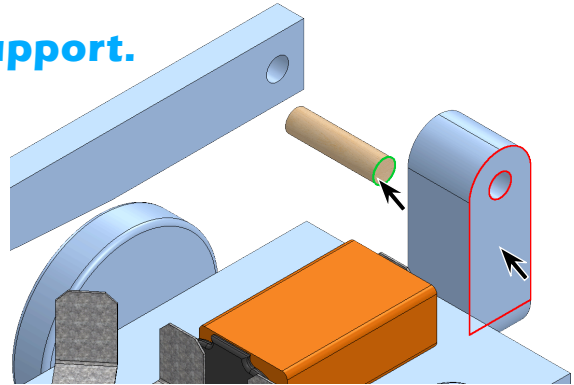

Fig. 12
Step 2. Click **end face of the Axle** and **side face of Arm**, Fig. 12.